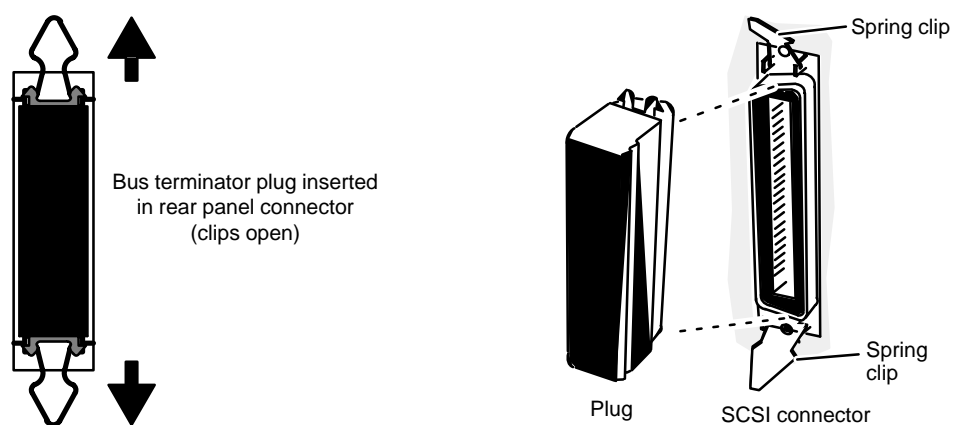

Figure 4-8 Removing the SCSI Bus Terminator Plug
2. If present, remove the SCSI bus terminator plug from the rear panel connector as shown in Figure 4-8. Simply open the spring clips by pushing them vertically, and then pull the plug off.